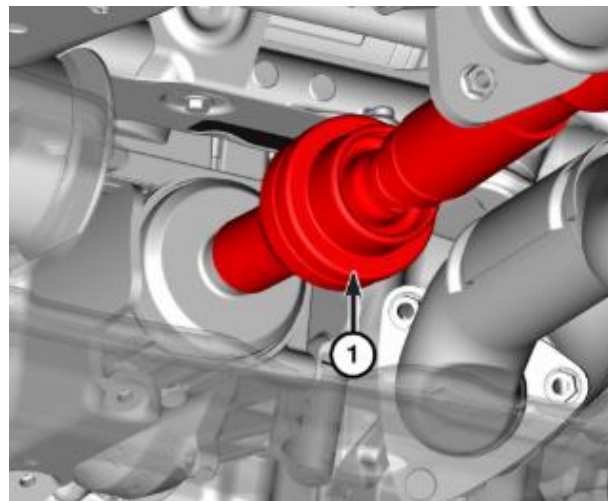

Figure 8 – Driveshaft
18. Using a brass drift, disconnect the driveshaft (1) from the PTU. Rest the rear driveshaft on the front subframe (Figure 8).
10. Connect the driveshaft to the PTU. Be sure the driveshaft is fully engaged to the PTU (Figure 8).